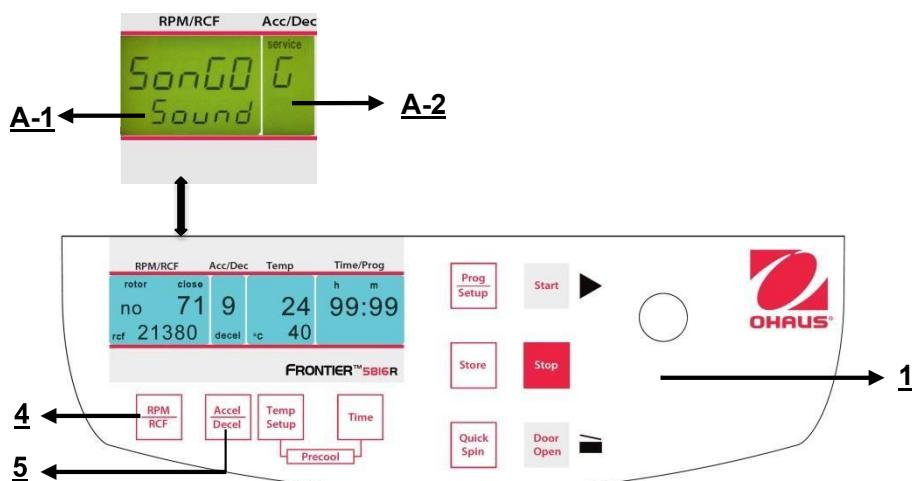

Figure. 37
Proceed as described under point 4.1.1 to enter this program mode and then press the key "Accel/Decel" (5). In the display "Acc/Dec" (A-2) the word "Service" flashes. Now select the letter "G". with the adjusting knob (1). As a result, in the display "RPM | RCF" (A-1), the word "SonGo/Sound" appears. After pressing the key "RPM | RCF" (4), you can select a song with the adjusting knob (1). (See figure 37).